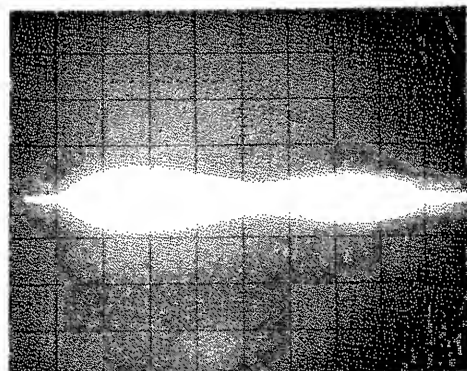
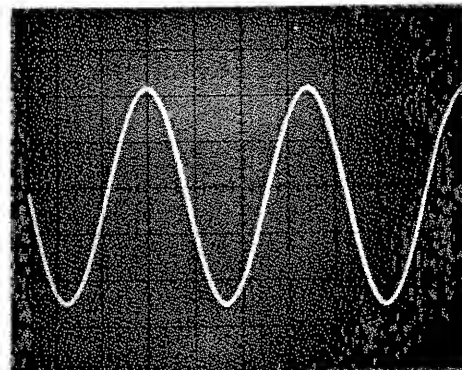

Figure 3-5. Single-shot trace bloom caused by INTENSITY and/or PERSISTENCE set too high
Figure 3-6. Single-shot display with INTENSITY and PERSISTENCE set the same as figure 3-5 and increased amplitude
Trace blooming (figure 3-5) indicates excessive INTENSITY that can damage the CRT. Blooming does not occur in the CONV mode. Do not increase intensity when in CONV mode. Always repeat above procedure each time sweep speed or input signals change.
f. Bloom. A visible, non-symmetrical expansion of a display written on the CRT screen, figure 3-5.
persistence. For example, with maximum PERSISTENCE and some settings of INTENSITY, a single-shot straight-line trace may bloom as shown in figure 3-5, while a single-shot signal with amplitude variations of several divisions may not cause blooming (figure 3-6). To determine the best INTENSITY setting, connect a signal which approximates the sweep time and amplitude of the single-shot signal to be written. Set PERSISTENCE fully cw and trigger a single sweep of the test signal. Set the INTENSITY as far cw as possible without causing blooming. Repeat the single sweep signal, erasing the display and setting the INTENSITY after each trace until the desired display is obtained. This setup should give maximum persistence to the single-shot display. After the single-shot signal has been written, the display may be retained by pressing STORE and setting the TIME control to MAX.